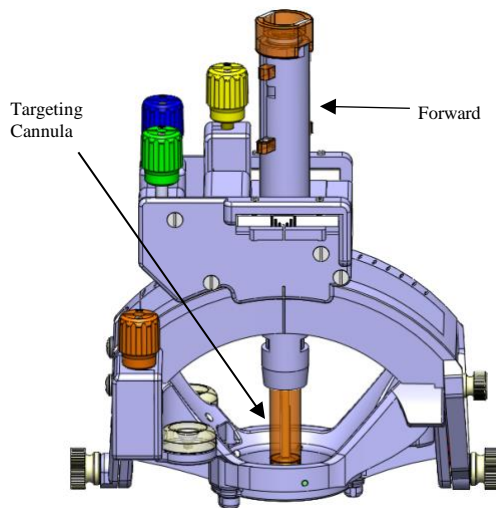

Figure 7: Targeting Cannula positioning and Tower/Base Orientation
11. Confirm that the Targeting Cannula is in the forward position to begin the procedure. **See Figure 7.**